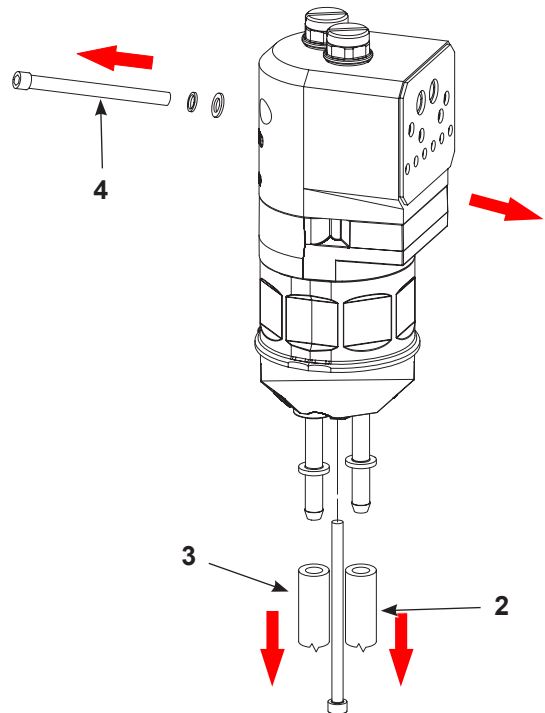
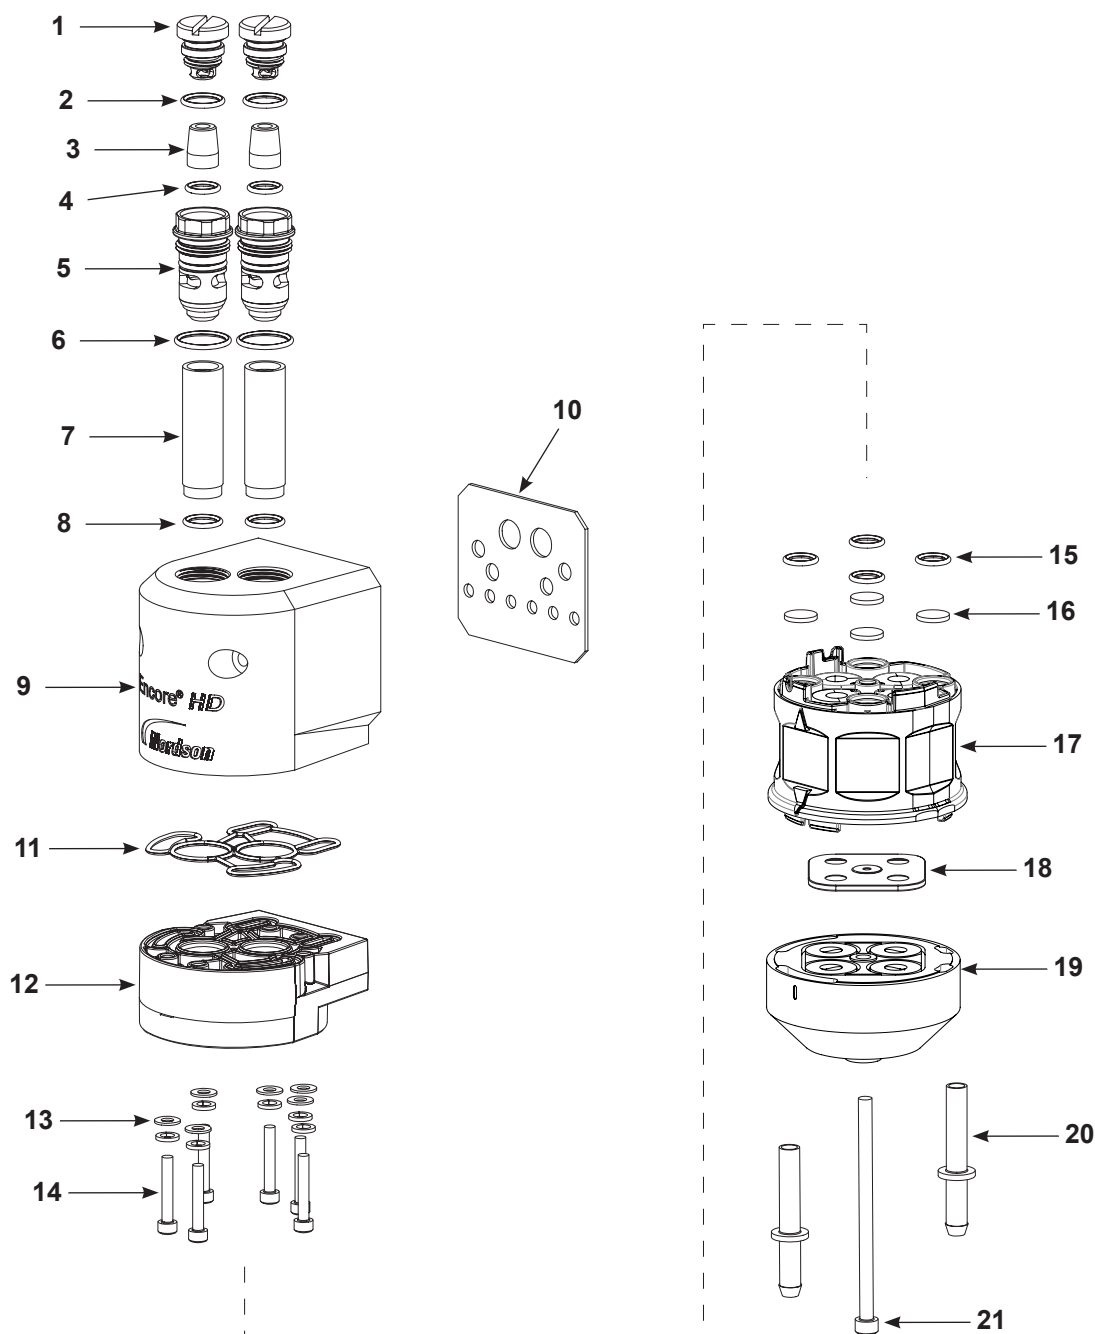

Figure 20 Standard Pump Disassemble Preparation
Figure 21 Pump Disassembly (Encore HD Shown)
**NOTE:** Any time the pump is disassembled, the Y block gasket (item 19 in Figure 20) must be replaced.
2. See Figure 20. Disconnect the inlet (2) and outlet powder tubing (3) from the bottom of the pump.
3. Remove the cabinet mounting hardware securing the pump to the pump panel (4) and move the pump to a clean work surface.
4. See Figure 21. Starting with the fluidizing tubes, disassemble the pump as shown. Gaskets that are glued on do not need to be removed unless they are damaged. Refer to *Replacing Pump Gasket* in the *Repair* section if replacement is needed.